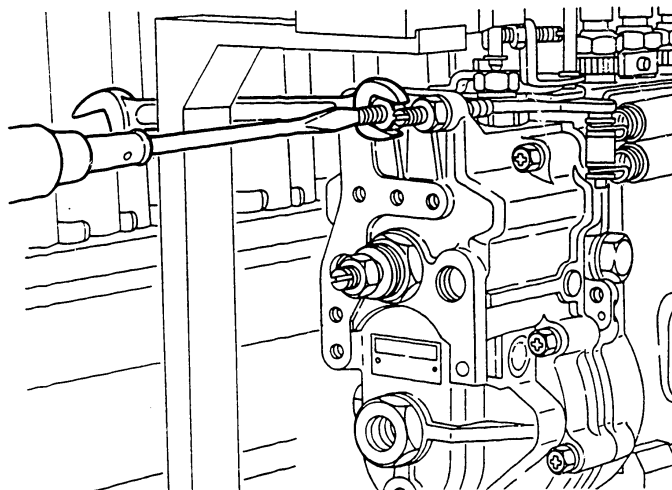

Fig. 139 Temporary setting of the control lever
While maintaining a pump speed of 80 - 100 rpm, adjust the idling setting bolt (174) (Figs. 139 and 140) so that the control rack will be at position Ra mm.